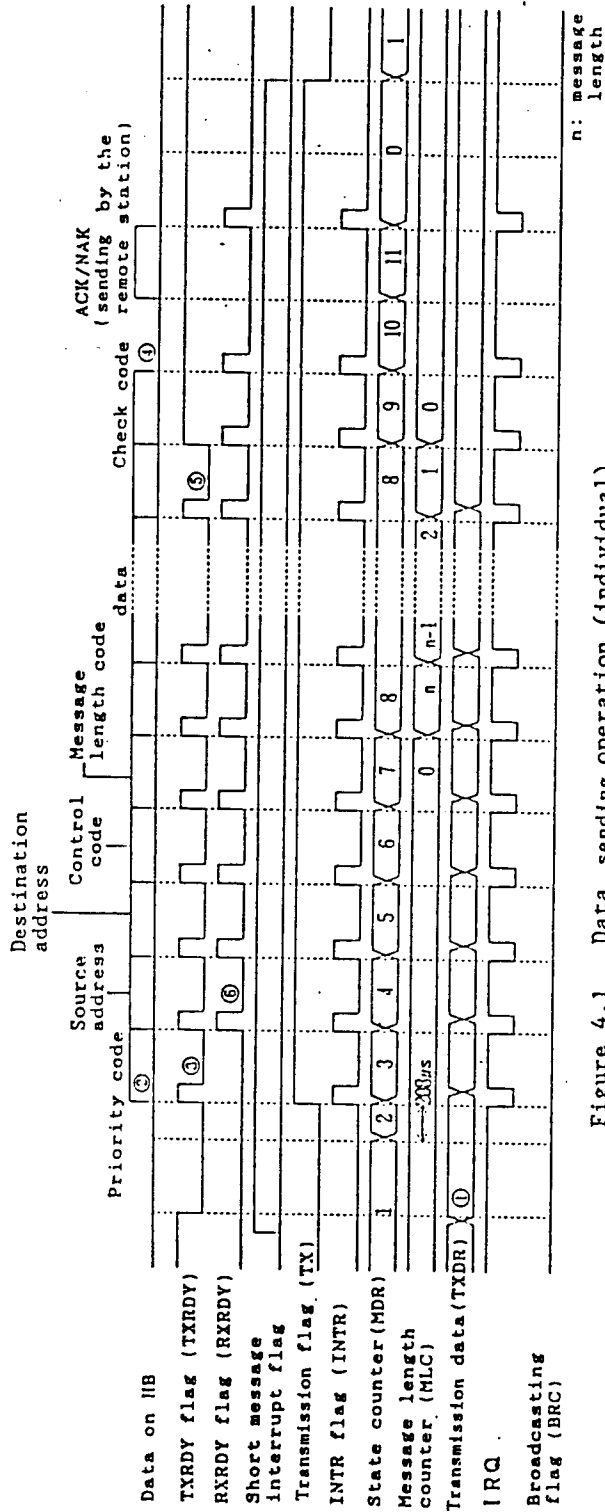

Figure 4.1 Data sending operation (individual)
4.1.1 Sending operation (See Figures 4.1 and 4.2.)